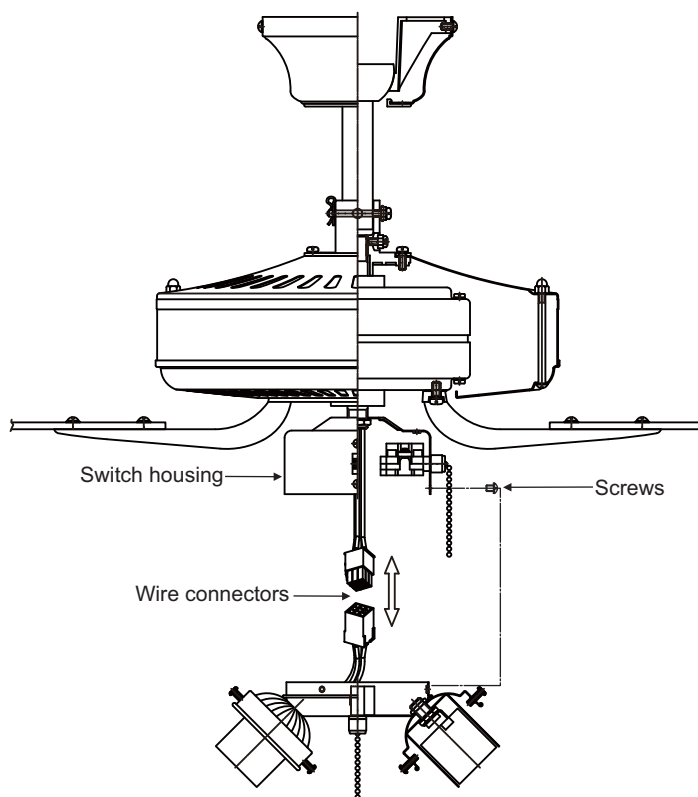

Figure 17
**Step 2.** Carefully push all wires back into the switch housing. Attach the light kit fitter by aligning its keyhole slots with the three screws holes and reversing switch on the side of switch housing. Tighten the three screws securely to prevent the light kit from vibrating loose. (Fig. 17)